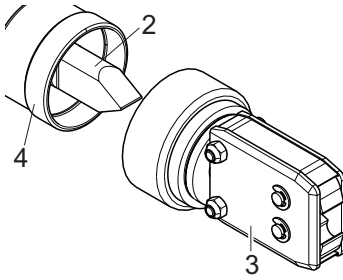
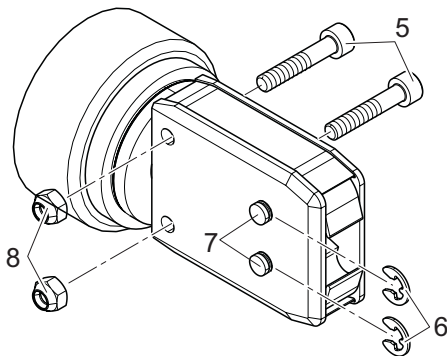

Fig. 26: Disconnect the pincer head
Fig. 27: Dismantling the pincer head
3. Disconnect the pincer head (Fig. 26/3) from the clamp pincer (Fig. 26/4).
The plunger (Fig. 26/2) stays in the clamp pincer (Fig. 26/4).
4. Remove two lock pins (Fig. 27/6) on pincer head (Fig. 26/3).
Do not push back pin (Fig. 27/7)!
5. Unscrew two hexagon nuts (Fig. 27/8) from the hexagon bolts (Fig. 27/5).